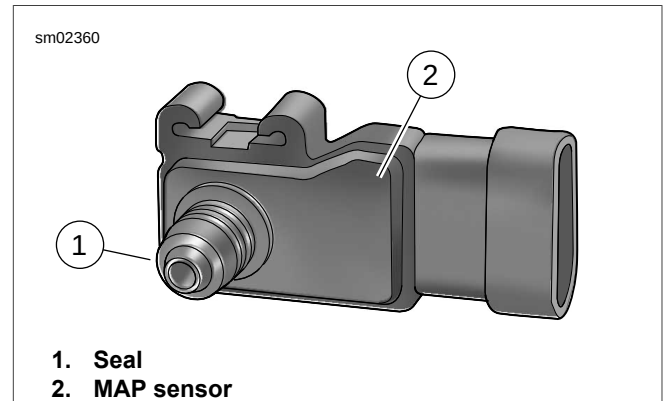

Figure 4-26. MAP Sensor
See Figure 4-26. Prior to installing the original sensor, inspect the seal (1). Seals not in good condition could cause vacuum leaks. Install **new** seal if necessary.